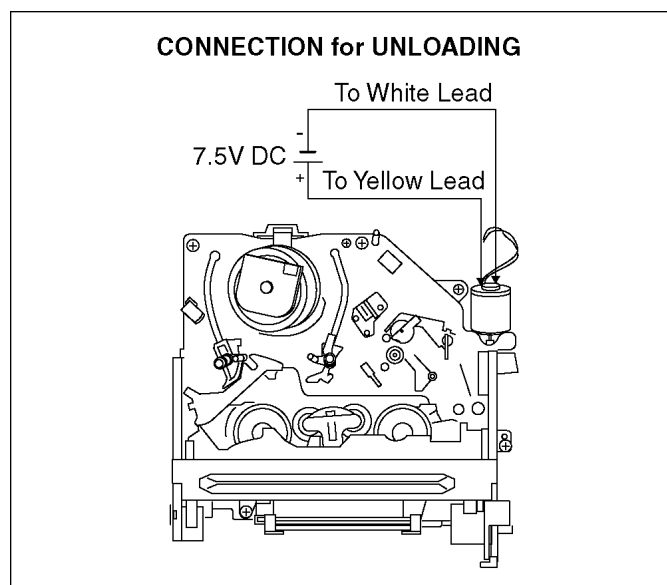

Fig. S1
- b. Connect five batteries (1.5V spec.) to the Loading Motor in series for supplying 7.5V to rotate the Loading Motor as shown in Fig. S1.